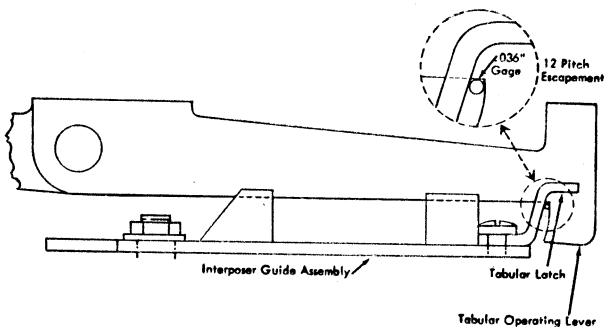

Figure 9. Tab Latch Adjustment
16. **THE TABULAR LATCH** should be adjusted to the right or left so that, with the interposer guide assembly held to the left, the latch will clear the operating lever by .036". A No. 1 gem paper clip can serve as a gage (Figure 9).